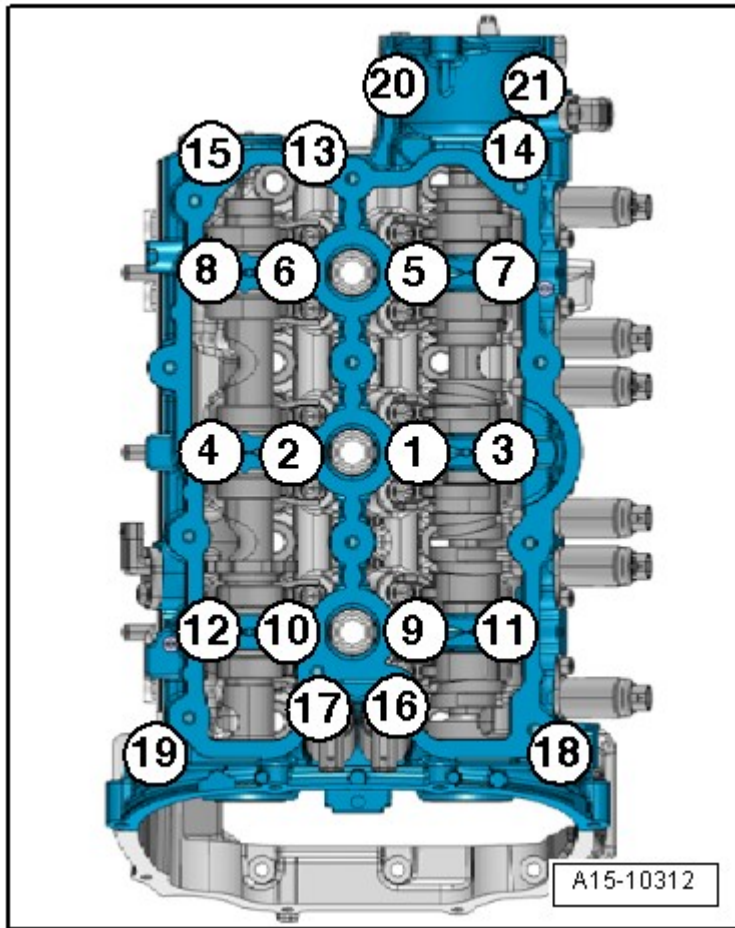

Fig. 18: Identifying Sequence Of Guide Frame Bolts
- Tightening sequence, refer to **Fig. 18**